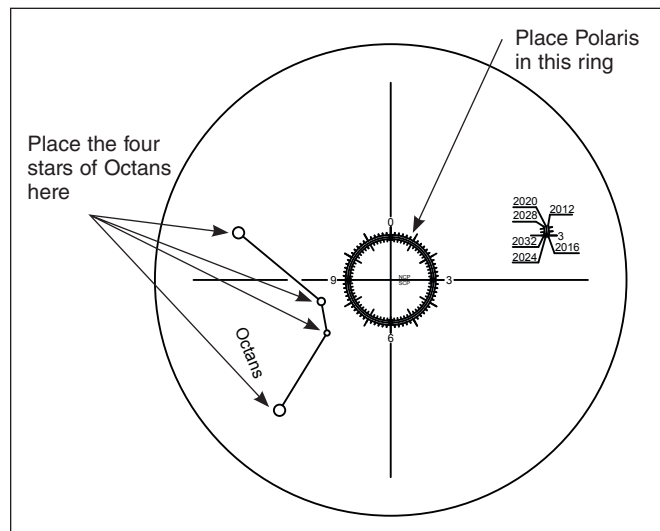

Figure 17. The polar scope's reticle, illuminated by an LED light inside the mount when it's powered on, should be visible when you look into the polar scope.
6. Turn on the power on the mount. An internal red LED light will illuminate the polar scope's reticle (Figure 17), which should be visible in the field of view (FOV) of the polar scope. If the reticle appears blurry, you can focus it by rotating the polar scope's knurled eyepiece.
Polaris is not located exactly at the North Celestial Pole; it is offset from it by less than 1 degree. The "Polaris circle" seen in **Figure 17** is a representation of Polaris' orbit around the NCP. When polar aligning the Atlas II mount, you'll need to determine where Polaris should be positioned on that circle, relative to the NCP, for the current time and date. Here's how:
At the end of the initialization of the SynScan hand controller, after entering the proper local longitude, latitude, date, time, and Daylight Saving time, the SynScan hand controller will display the message: "Polaris Position in P.Scope=HH:MM". Imagine the graduated circle in **Figure 17** as a clock's face with 12:00 at the top, with the current time pointing to the "HH:MM". The orientation of the hour hand of the clock represents the orientation of Polaris in the polar scope.